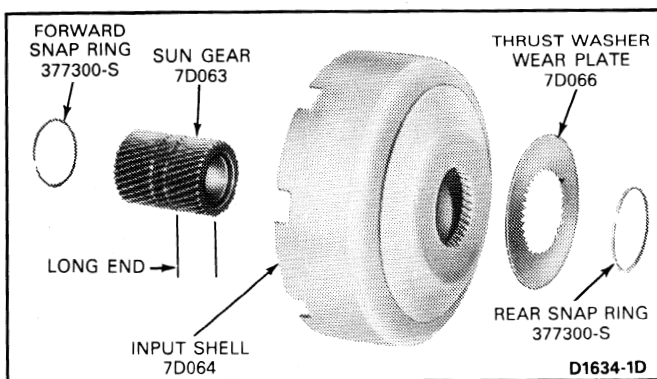

FIG. 55 Input Shell and Sun Gear Disassembled
2. Remove the thrust washer wear plate from the input shell and sun gear (Fig. 55).
1. Install the forward snap ring on the forward end (short end) of the sun gear (Fig. 55). Working from inside the input shell, slide the sun gear and snap ring into place making sure that the longer end is at the rear (Fig. 55).